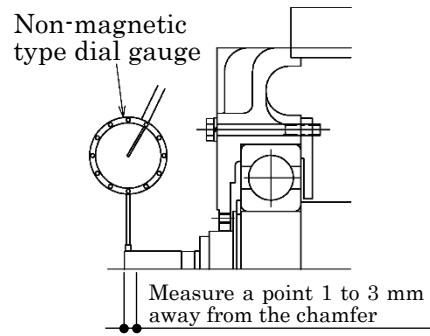

Fig.11 Runout measurement of oscillator mounting shaft
- (13) Pull out the bearing from shaft by the puller. (As to the details of replacement work of bearing, refer to item V-2.)
- (14) After completion of replacement work of bearing, carry out assembly work under reversed procedure of disassembly. **Align** the matchmarks marked at the time of disassembly and tighten the bolts of diagonal positions alternately in order to avoid uneven tightening. Also, apply grease (Three Bond 1805 spray type) to the lip of the V ring. The shaft runout for mounting the encoder should be 0.05 mm or less at TIR. The measurement method of shaft runout is according to Fig.11. At that time, use a non-magnetic dial gauge. If the dial gauge is not nonmagnetic, it may not be possible to measure shaft runout correctly.